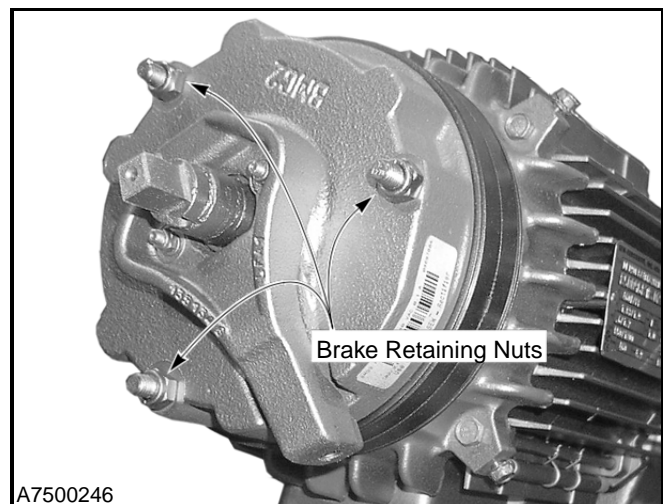
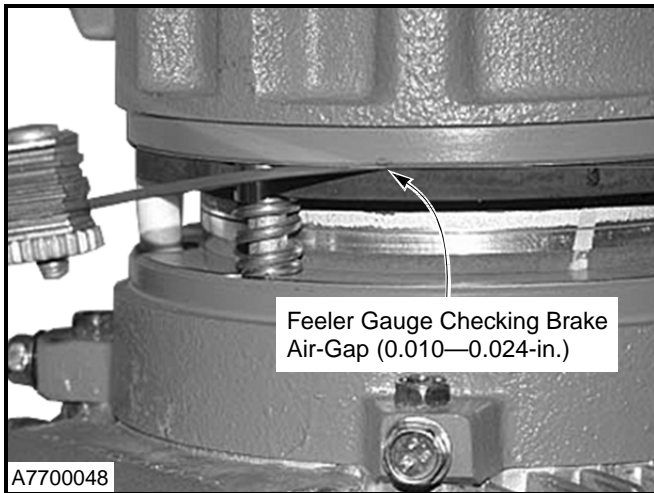

Figure 40
Figure 41
4. Using a feeler gauge and a nut driver, adjust the retaining nuts until you achieve the proper air-gap (0.010–0.024-in.). (See Figure 40 and Figure 41)